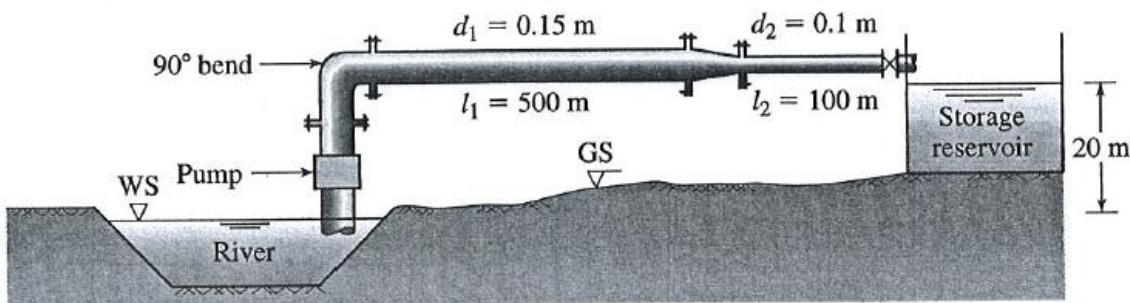

Figure 5
6. (a) A pump is used to deliver a discharge of $0.05 \text{ m}^3/\text{s}$ from a river to a storage reservoir as shown in **Figure 5**. The piping system consists of 500 m of 0.15m cast iron with 90° bend and then transition to a 0.1 m cast iron pipe 100m long. The difference water level in the river and the reservoir is 20 m . Determine the power of pump required to discharge water through a fully open gate valve. Assume the water temperature is 20°C .